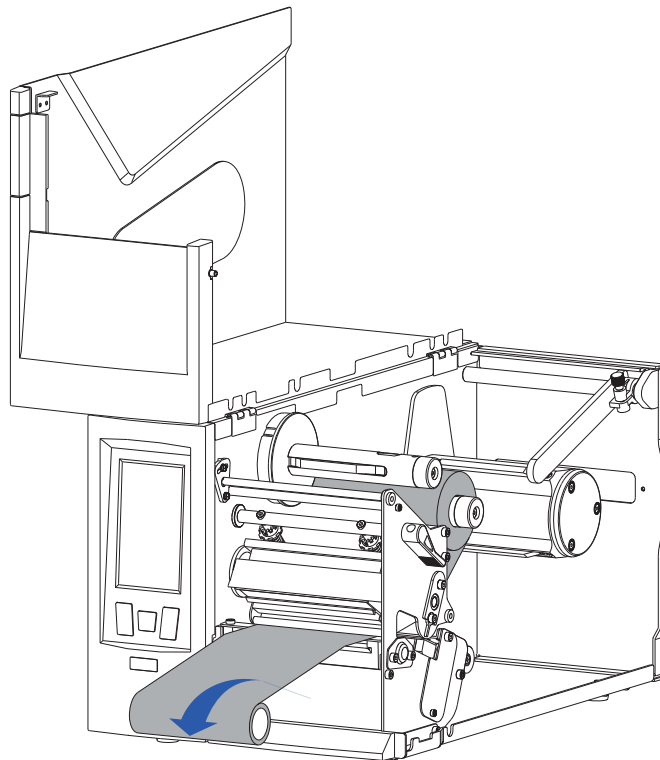

Figure 2-12 Wrap Ribbon on the Core
6. Wrap the ribbon around a spare ribbon core to form a Ribbon Take-up Roll. See Figure 2-12.